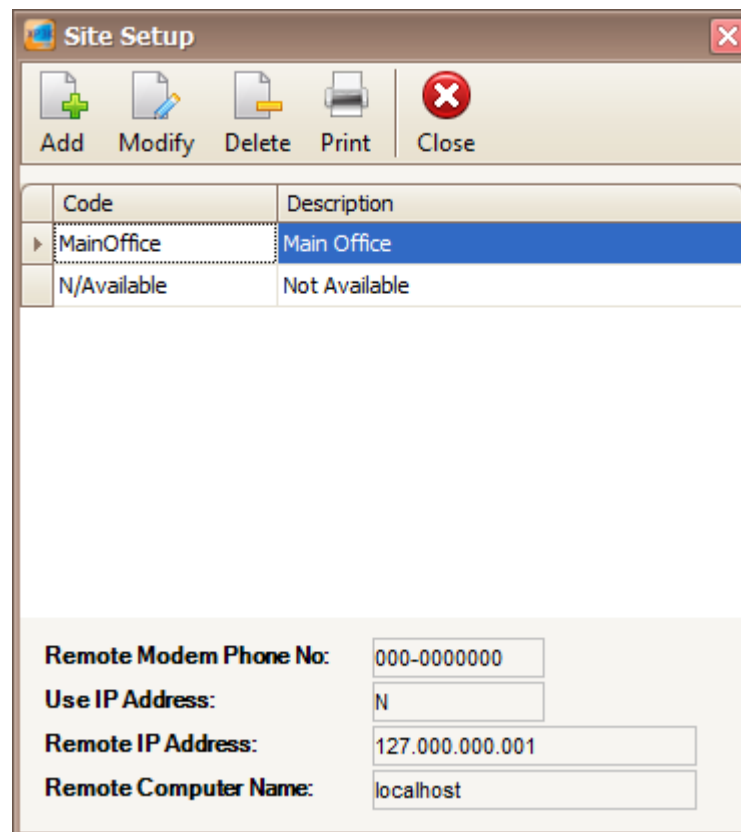

Figure 146 - Site Setup
2. The following window will be shown (*Refer Figure 146*).